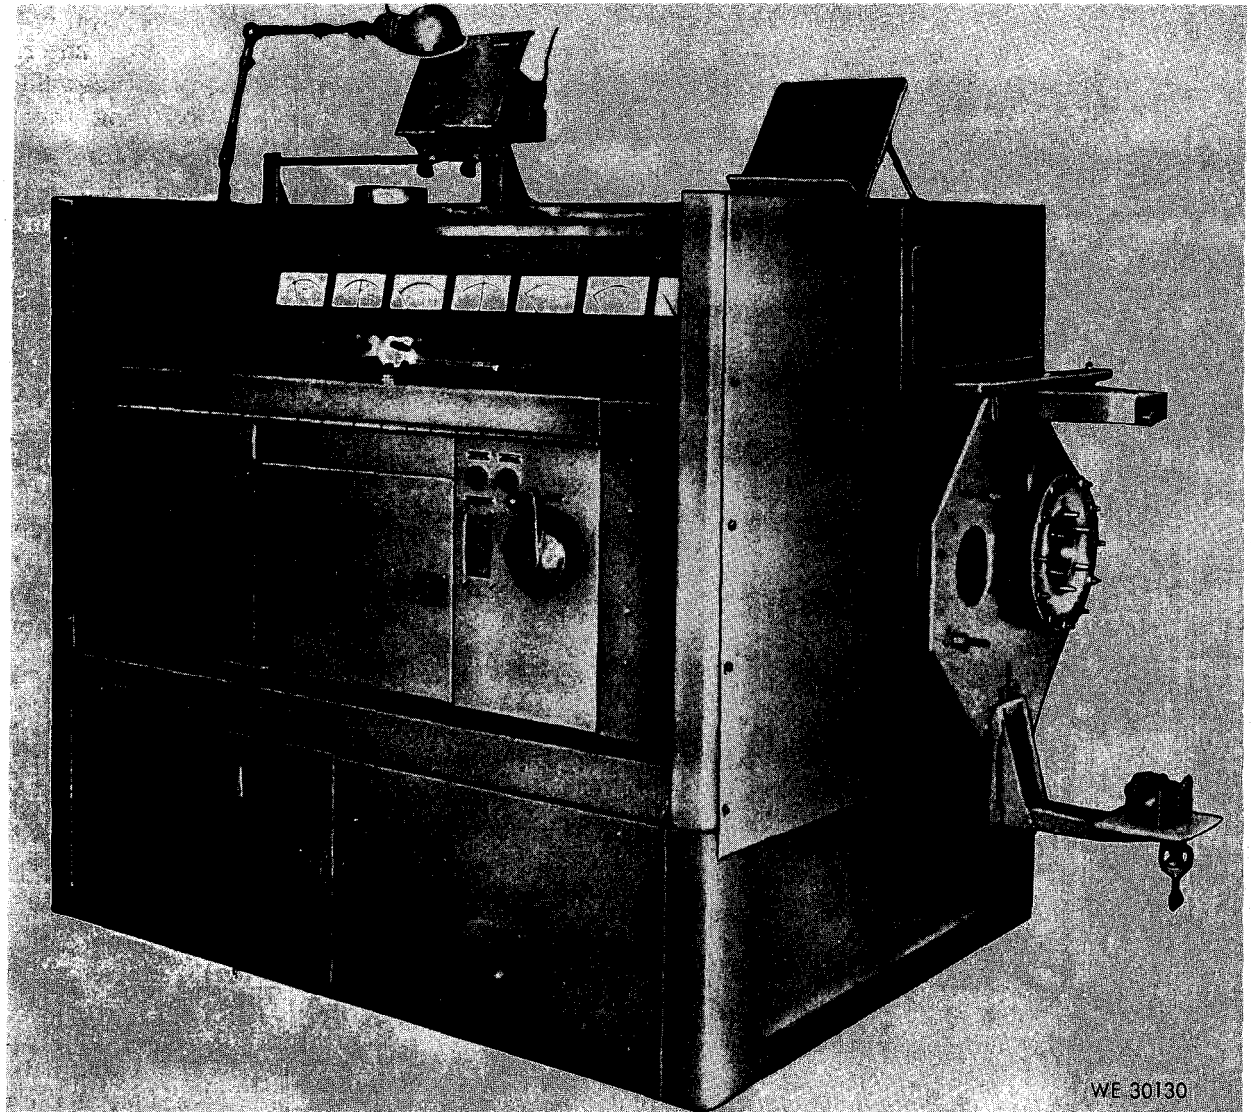

Figure 4. Test stand (type II, part number 7336) (4910-316-5252) - right front view.
b. The test stand, type II, part number 7336 (4910-316-5252) (fig. 4) is basically the same as model AGARTS, type II, part number 7336-1 test stand in a above; the exception is that this model test stand has oblong shaped meters which are larger and are not shock mounted. It has no manually operated battery charging unit and the equipment does not include the numbers 3144 and 3145 control box mounting plates (fig. 69). In the place of these mounting plates a control box mounting bracket is included on the right hand side of the test stand (fig. 4).